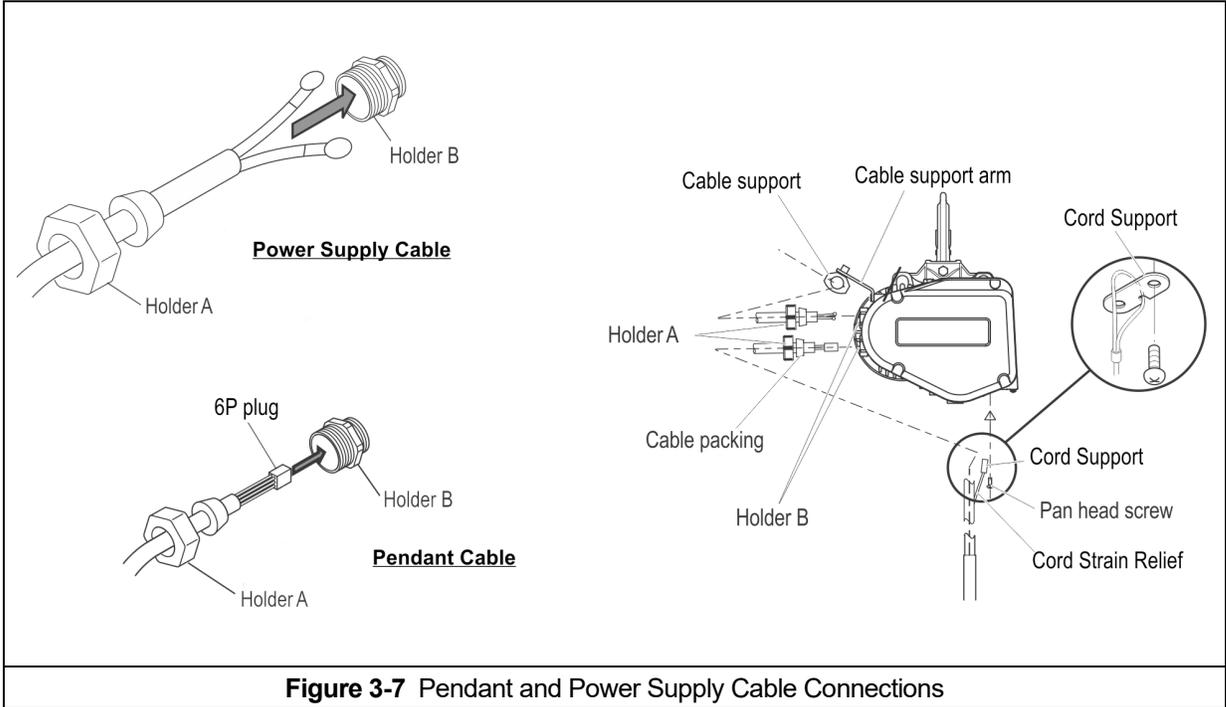

Figure 3-7 Pendant and Power Supply Cable Connections
- Refer to **Figure 3-7**.
- Insert pendant cable (as shown in **Figure 3-7** with Holder A and Cable Packing) through Holder B which is installed in hoist body.
- Refer to **Figure 3-7** and **Figure 3-8**.
- Insert the Power Supply Cable (as shown in Figure 3.7 with Holder A and Cable Packing) through Holder B which is installed in the hoist body.
- For a manual trolley the guide wire should be positioned slightly outside the hoist's Cable Support as shown in **Figure 3-7**.